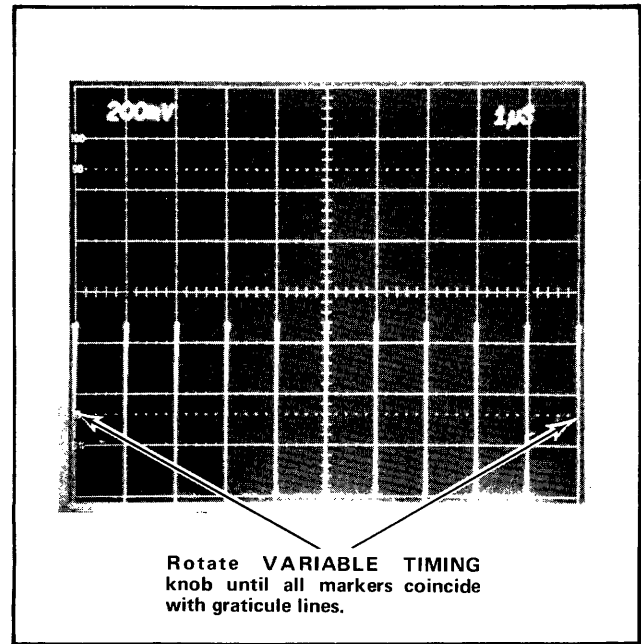

Fig. 1-4. Measuring Timing Error of Time Base.
8. Rotate VARIABLE TIMING knob until all time markers coincide with graticule lines on the oscilloscope, as shown in Fig. 1-4.